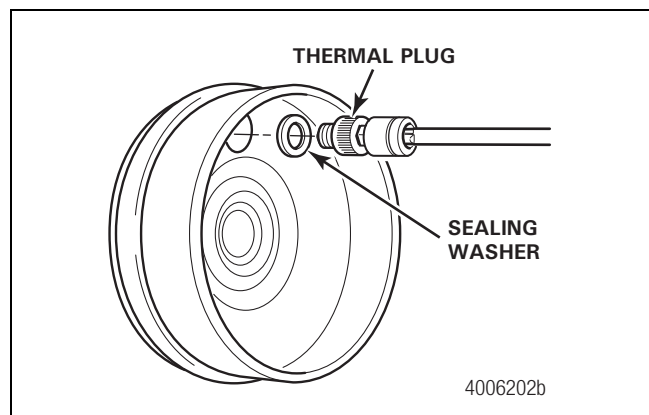

Figure 3.35
- I. Remove the thermal plug with a 5/32-inch (4 mm) Allen-head socket. Figure 3.35.